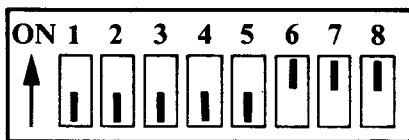

Figure 2 — DGDA Switch Settings
2. Figure 2 gives you the factory pre-set switch settings. This allows the DGDA to work with a Tandy CM-1 Color Monitor. Check to be sure the switches are set correctly.